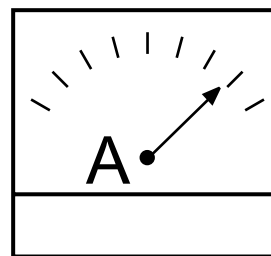

Figure 35. Ammeter (Load)
- Observe the generator's ammeter (Figure 35) and verify it reads the anticipated amount of current with respect to the load. The ammeter will only display a current reading if a load is in use.